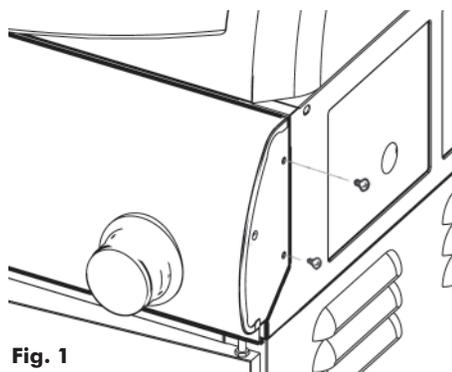
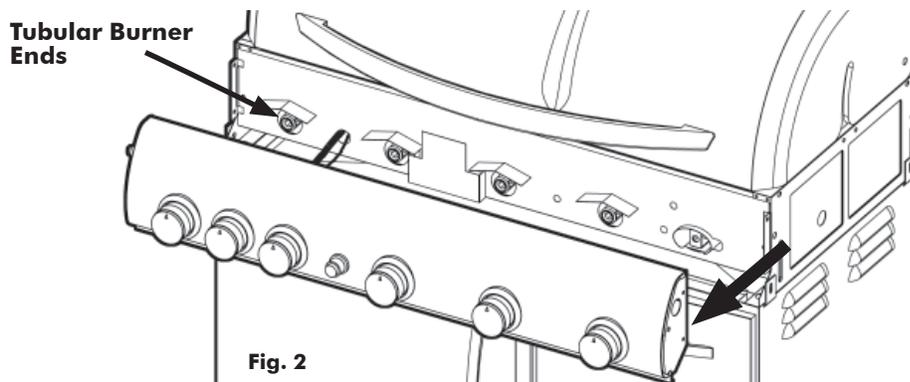

Fig. 1
Fig. 2
4. Figures 1, 2, 4 and 4a show the grill at assembly step 11, prior to attaching the Side Tables, and illustrate the initial steps in the "FIRST TIME USE LEAK TEST".
Detach the Control Panel from the Grill Body/Firebox by removing the two 5/32" Bolts from each end. (Fig. 1) Gently pull the Control Panel away from the Body until Valves disengage from the Tubular burner ends. (Fig. 2) Support the Control Panel to keep tension off of the igniter wire leads or detach the wire leads from the Starter Button module.
11. Re-attach the wire leads to the Igniter Button. Replace Control Panel around flanges at Bowl ends and align bolt holes on each side. Replace and retighten all bolts. (Fig. 1)